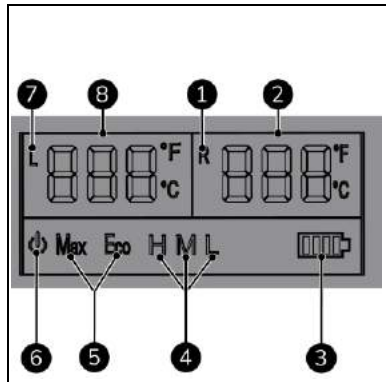

Figure 6
- Temperature shows the set or current temperature in the cooling compartment (Figure 6, pos. 8) or freezing compartment (Figure 6, pos. 2) (Celsius or Fahrenheit).
- Battery (Figure 6, pos. 3) shows the status of the vehicle battery.
- Battery protection (Figure 6, pos. 4) shows the currently selected battery protection mode (high, medium or low).
- Cooling capacity (Figure 6, pos. 5) shows the cooling capacity (MAX or ECO).
- ON/OFF (Figure 6, pos. 6) shows if the device is on or off.
- L (Figure 6, pos. 7) and/or R (Figure 6, pos. 1) are flashing; the unit is cooling.
When the device is connected to the power supply, the on/off indication light (Figure 6, pos. 7) is on.